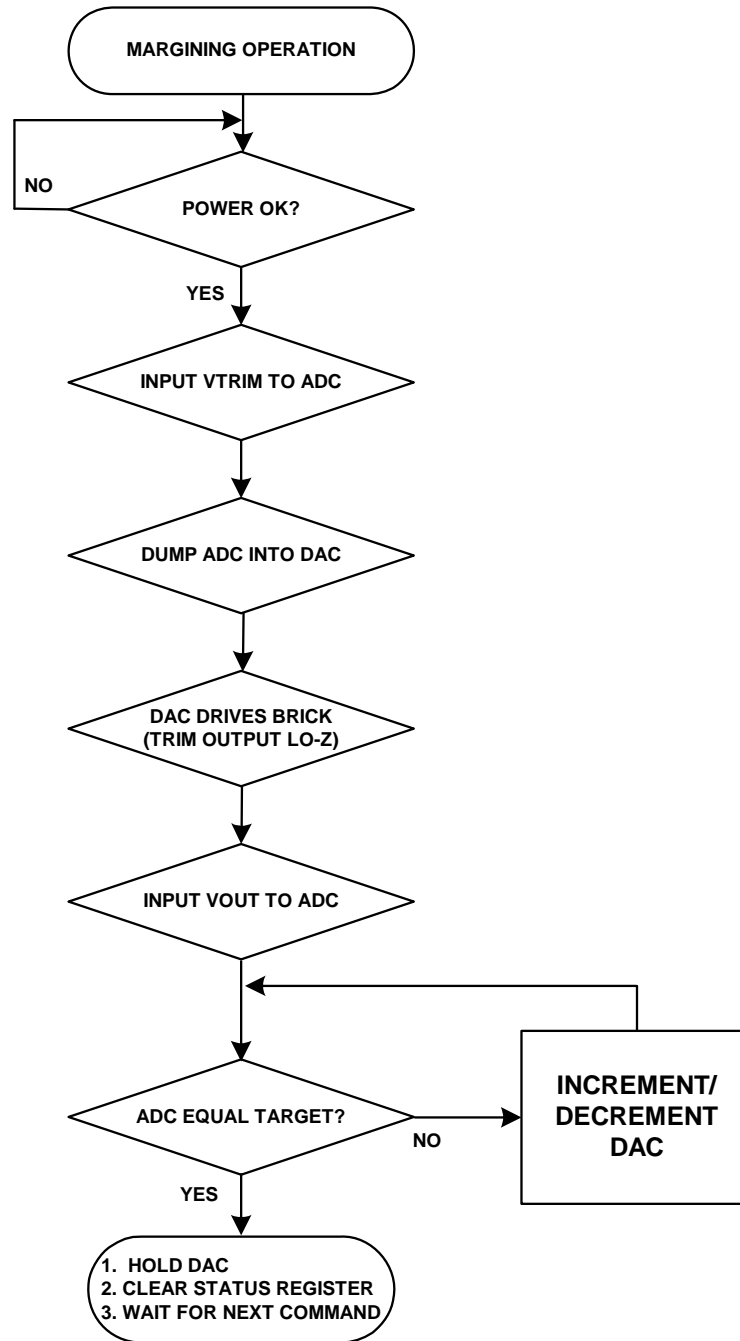

Figure 5 - SMM151/152 Margin Flow Chart
The SMM151/152 have four basic modes of operation: under-voltage (UV) and over-voltage (OV) monitoring mode, differential output voltage sensing mode, input current monitoring mode and supply margining mode. A detailed description of each mode and feature follows and can also be found in Application Note 68. A flow diagram is shown in Figure 5.